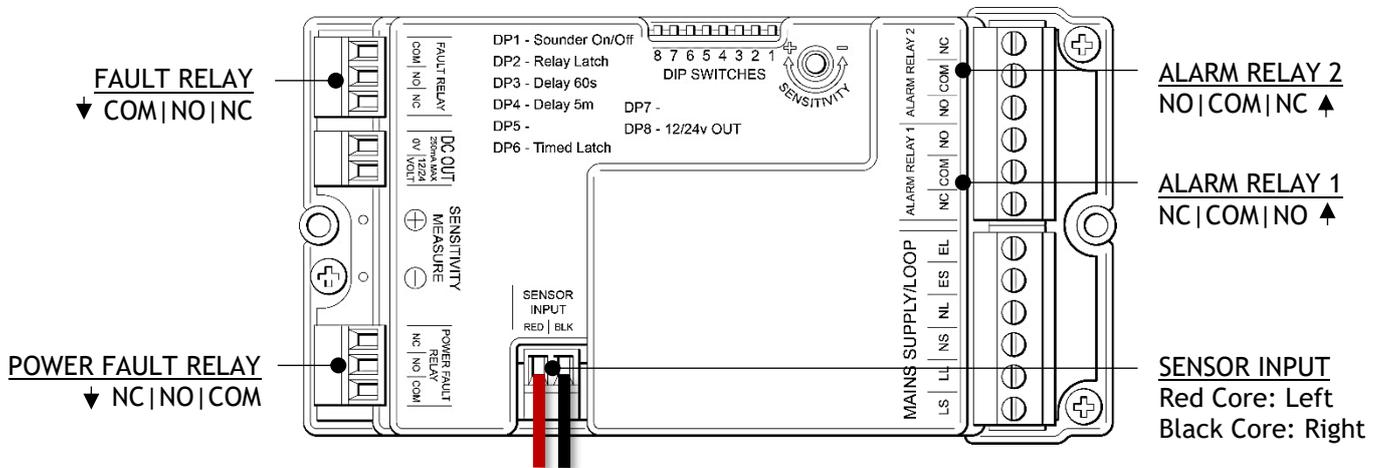

Figure 6: EMS-01 Rear Panel Showing Sensor / Relay Connections
1. Ensure that the unit is powered OFF. Connect the **leader cable** into the **sensor input terminal** on the unit. Do not connect the green or white cores (Figure 6).
1. Ensure that the unit is powered OFF. Refer to **Figure 6** to select the correct relay for the application.
2. Connect your device to the 12/24V output, 250mA maximum (**Figures 6 and 12**).
1. Refer to section 2.2 and/or 3.2.1 (Figure 6) to select the correct relay.